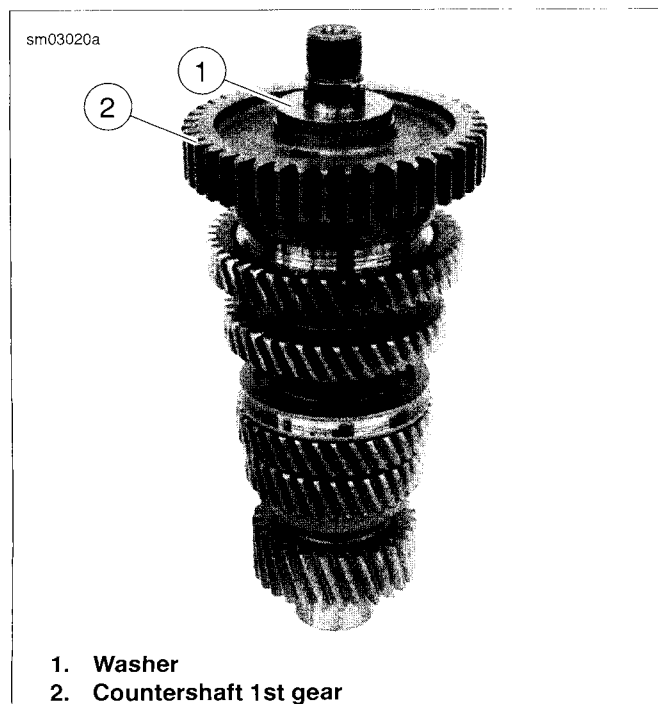

Figure 6-17. Countershaft 1st Gear
3. See Figure 6-17. Remove washer (1), countershaft 1st gear (2) and bearing.
6. See Figure 6-17. Install **new** needle bearing, countershaft 1st gear (2) and washer (1).